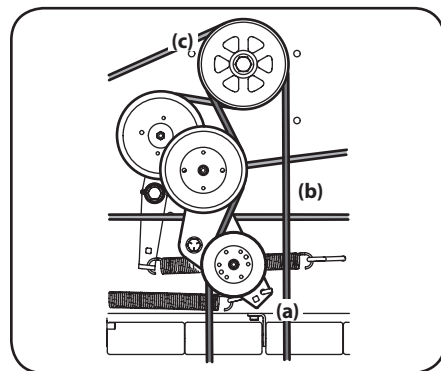

Figure 4-12
4. Using a 1/2" drive in the idler pulley bracket (a), turn the wrench towards the right of the tractor and slide the PTO belt (b) off the PTO pulley (c). See Figure 4-12.